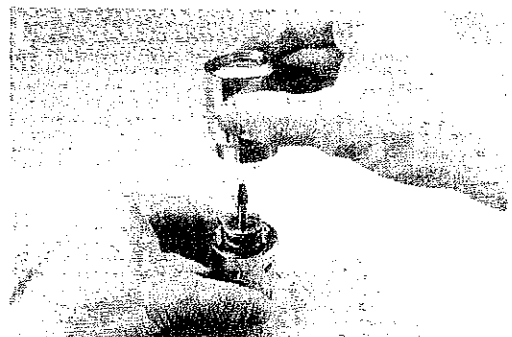

Fig. 2B
6. Carefully lower the main body(28) onto the piston shaft until the bullet and shaft have passed through the piston shaft o-ring. The main body should now be resting on the spring, mated flush with the end. (See fig. 2B.)